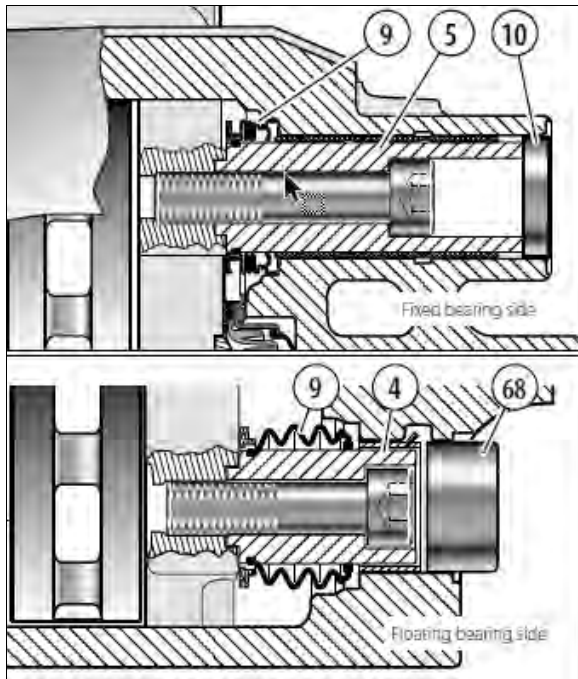

FIGURE 49: CHECKING OF GUIDE PIN AND SEALS
The floating bearing side with guide pin (4c, 4d or 4e) is sealed with inner boot (9c, 9d or 9e) and with cover (68c 68d or 68e). All variants (9), (10) and (68) must be free of any signs of damage (see Figure 49).